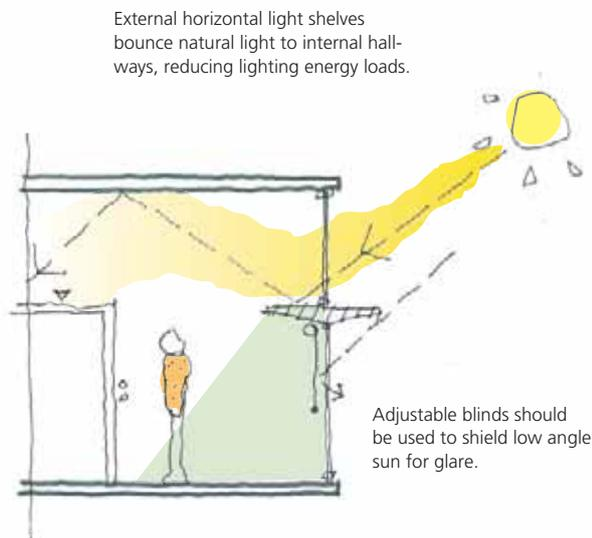

Fig. 9 External light shelves
- daylighting of common area corridors by extending corridors to perimeter of the building, using voids, light shelves and light wells (see figure 9).